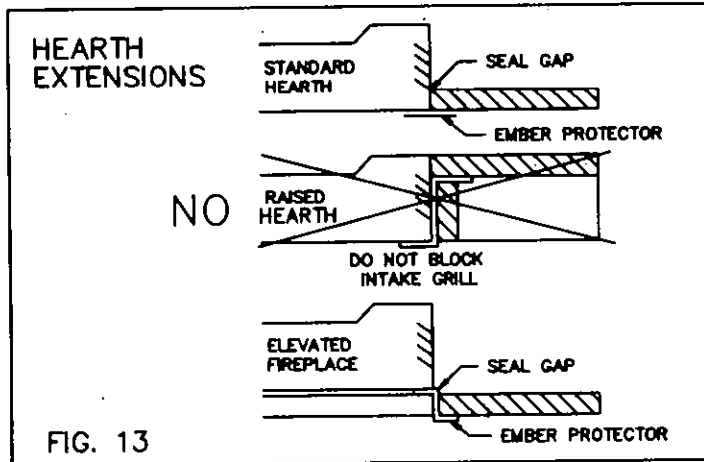

FIG. 13
STEP 4: When the fireplace is installed upon a combustible floor a galvanized sheet ember protector must be installed between the fireplace and the hearth extension as illustrated in FIG.13.
A hearth extension projecting a minimum of 16 inches in front of and a minimum of 8 inches beyond each side of the fireplace opening is required to protect combustible floor construction in front of the fireplace. Use FMI hearth extension HE 36 or a layer of non-combustible inorganic material having a thermal conductivity of $k=0.84$ BTU IN./FT. SQ. HR F (or less) at 1" thick. For example, if the material selected has a K Factor of 0.25, such as glass fiber, then the following formula would apply: $0.25/0.84 \times 1" = .30$ thick. This must be covered by any non-combustible material such as tile, slate, brick, concrete, metal, glass, marble, stone, etc. Fasten the hearth extension to the floor to prevent shifting and seal the gap between the fireplace frame and hearth extension with a non-combustible material (SEE FIG.13).